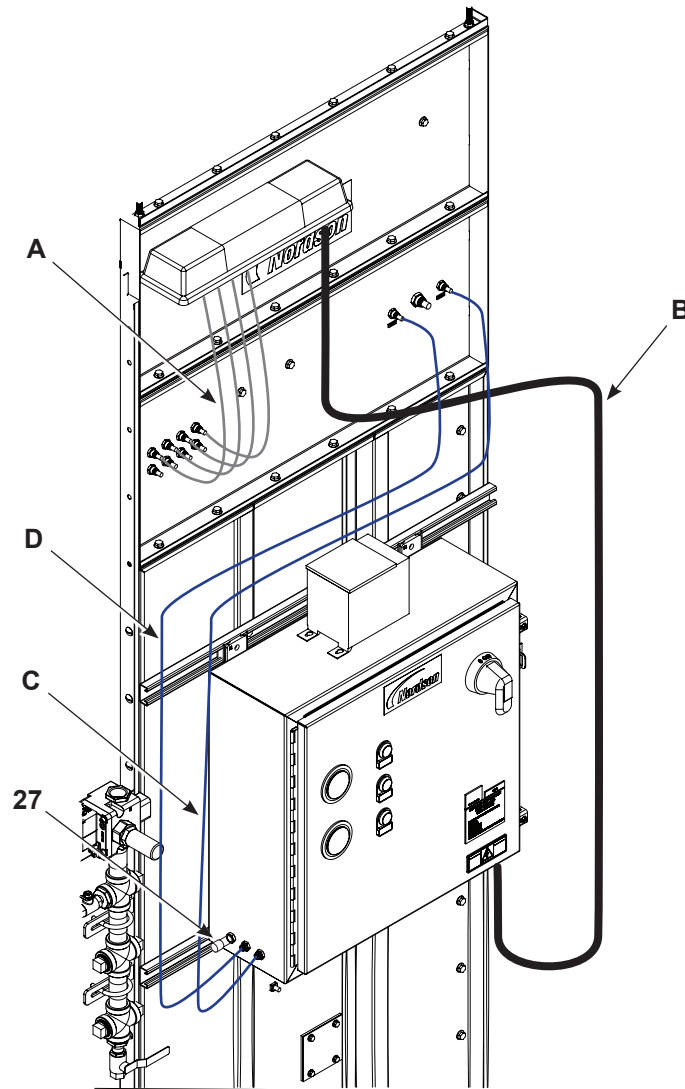

Figure 8 Air Tubing and Conduit Connections
5. See Figure 8. Connect the air tubing (A) from the pilot valve assembly to the tube fittings on the collector.
6. Connect the electrical rubber conduit (B) from the pilot valve assembly to the inside of the control panel.
7. Plug the panel vent (27) into the panel vent valve on the control panel.
8. Plug the primary pressure gauge tubing (C) into the fittings labeled Primary Filter from the collector to the control panel.
9. Plug the final pressure gauge tubing (D) into the fittings labeled Final Filter from the collector to the control panel.